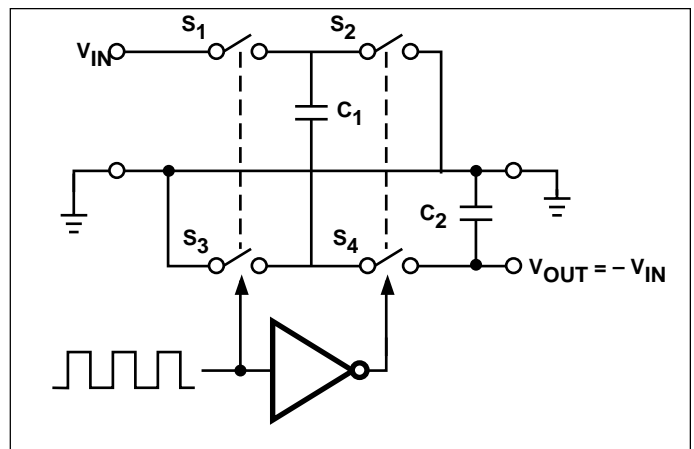
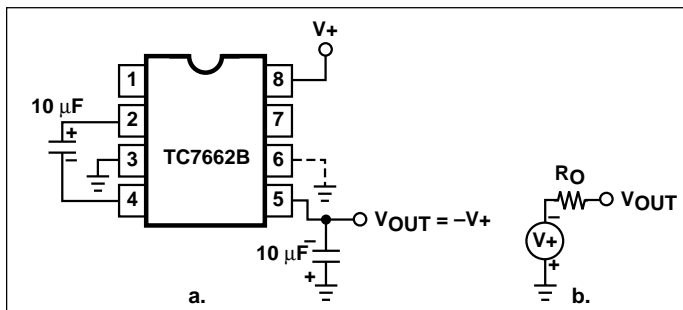
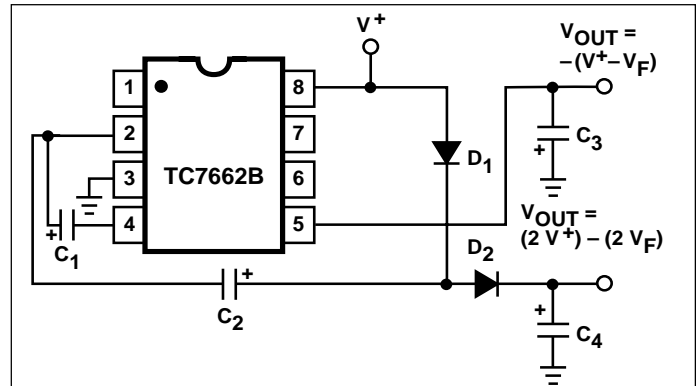

Figure 2. Idealized Negative Voltage Capacitor
Figure 3. Simple Negative Converter and its Output Equivalent
Figure 10. Combined Negative Converter and Positive Doubler
### ELECTRICAL CHARACTERISTICS: $V^+ = 5V$ , $T_A = +25^\circ C$ , OSC = Free running, Test Circuit Figure 2, Unless Otherwise Specified.
The TC7662B contains all the necessary circuitry to complete a negative voltage converter, with the exception of two external capacitors which may be inexpensive 1 $\mu$ F polarized electrolytic types. The mode of operation of the device may be best understood by considering Figure 2, which shows an idealized negative voltage converter. Capacitor C1 is charged to a voltage V+ for the half cycle when switches S1 and S3 are closed. (Note: Switches S2 and S4 are open during this half cycle.) During the second half cycle of operation, switches S2 and S4 are closed, with S1 and S3 open, thereby shifting capacitor C1 negatively by V+ volts. Charge is then transferred from C1 to C2 such that the voltage on C2 is exactly V+, assuming ideal switches and no load on C2. The TC7662B approaches this ideal situation more closely than existing non-mechanical circuits.
In the TC7662B, the four switches of Figure 2 are MOS power switches; S1 is a P-channel device and S2, S3 and S4 are N-channel devices. The main difficulty with this approach is that in integrating the switches, the substrates of S3 and S4 must always remain reverse biased with respect to their sources, but not so much as to degrade their "ON" resistances. In addition, at circuit start up, and under output short circuit conditions (VOUT = V+), the output voltage must be sensed and the substrate bias adjusted accordingly. Failure to accomplish this would result in high power losses and probable device latchup.
where V1 and V2 are the voltages on C1 during the pump and transfer cycles. If the impedances of C1 and C2 are relatively high at the pump frequency (refer to Figure 2) compared to the value of RL, there will be a substantial difference in voltages V1 and V2. Therefore, it is desirable not only to make C2 as large as possible to eliminate output voltage ripple, but also to employ a correspondingly large value for C1 in order to achieve maximum efficiency of operation.
The majority of applications will undoubtedly utilize the TC7662B for generation of negative supply voltages. Figure 3 shows typical connections to provide a negative supply where a positive supply of +1.5V to +15V is available. Keep in mind that pin 6 (LV) is tied to the supply negative (GND) for supply voltages below 3.5 volts.
The output characteristics of the circuit in Figure 3 can be approximated by an ideal voltage source in series with a resistance as shown in Figure 3b. The voltage source has a value of  $-(V_+)$ . The output impedance ( $R_O$ ) is a function of the ON resistance of the internal MOS switches (shown in Figure 2), the switching frequency, the value of  $C_1$  and  $C_2$ , and the ESR (equivalent series resistance) of  $C_1$  and  $C_2$ . A good first order approximation for  $R_O$  is:
Figure 10 combines the functions shown in Figures 3 and 9 to provide negative voltage conversion and positive voltage doubling simultaneously. This approach would be, for example, suitable for generating +9V and -5V from an existing +5V supply. In this instance, capacitors  $C_1$  and  $C_3$  perform the pump and reservoir functions, respectively, for the generation of the negative voltage, while capacitors  $C_2$  and  $C_4$  are pump and reservoir, respectively, for the doubled positive voltage. There is a penalty in this configuration which combines both functions, however, in that the source impedances of the generated supplies will be somewhat higher due to the finite impedance of the common charge pump driver at pin 2 of the device.